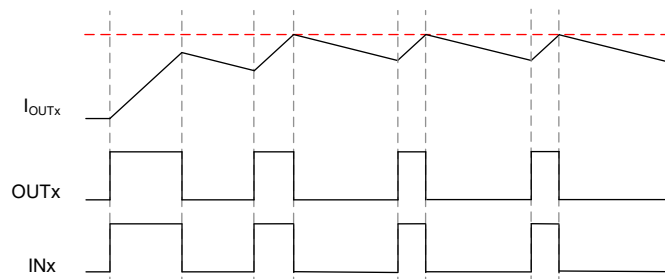
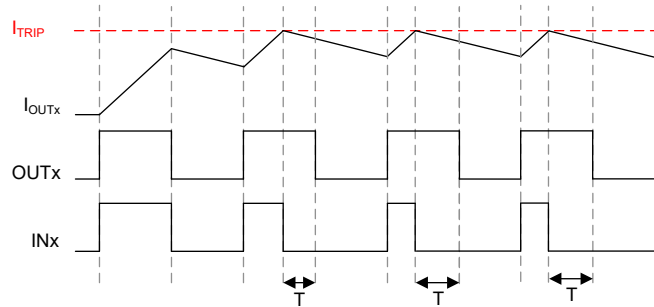

Figure 6-5. Inductive Load Connected to ground, Cycle-by-cycle control
Figure 6-6. Inductive Load Connected to ground, Cycle-by-cycle control
- Loads can also be controlled using the cycle-by-cycle method. When $INx = 1$, the current through the load builds up; and when $INx = 0$, the current through the load decays. By properly choosing the duty cycle of the INx pulse, current can be regulated to a target value. Various such scenarios are shown in Figure 6-5 and Figure 6-6.